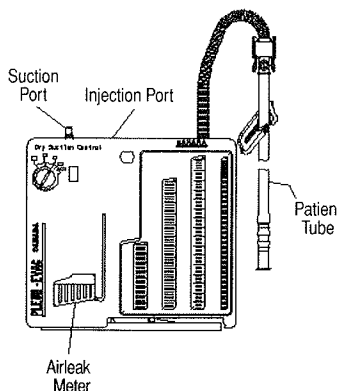

FIGURE 1
Connect the patient tube, which is the long tube from the collection chamber, to the patient's thoracic catheter. One way seal is now established for patient protection. (Figure 1)
- Attach the exposed tip into the Needleless Injection Site on the top of the unit (Figure 1)
- Depress the plunger on the syringe. The syringe contains enough water to fill the Air Leak Meter. Fill to the "Fill" line (Figure 1)
Connect the suction source to the suction port. (Figure 1)